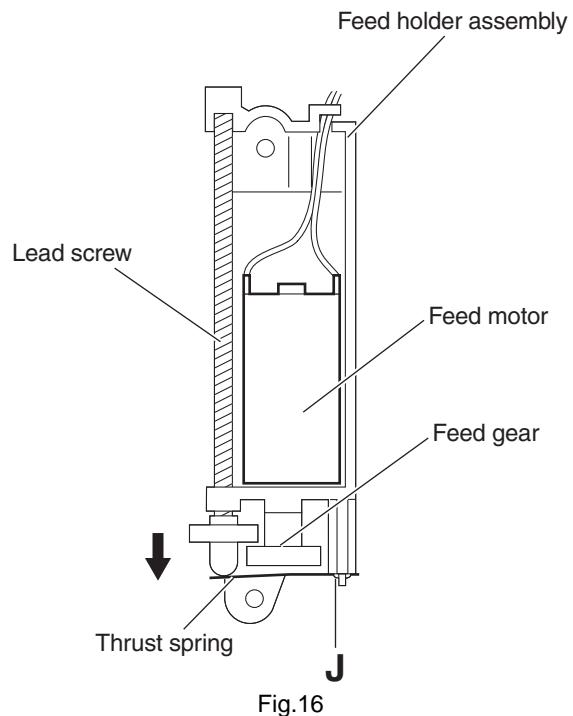

Fig.16
- (3) Remove the screw **J** attaching the thrust spring. (See Fig.16.)
- (4) Remove the feed gear and lead screw in the direction of the arrow. (See Fig.16.)